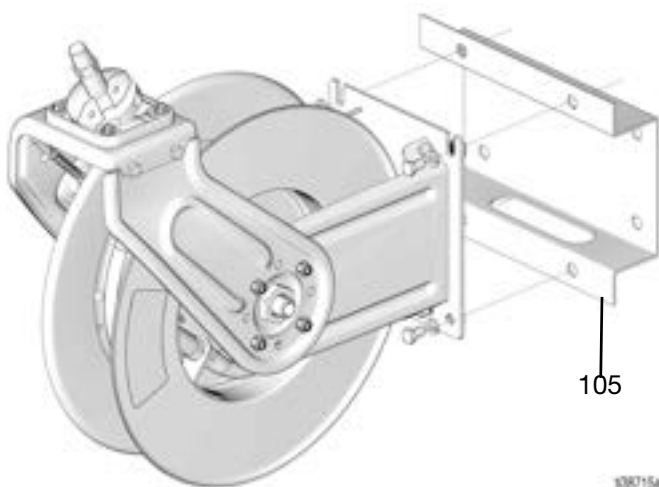

FIG. 14
- For mounting with Kits 24A219-24A222, mount the channel (105) to the wall, then mount the hose reel to the channel (105) (FIG. 14).